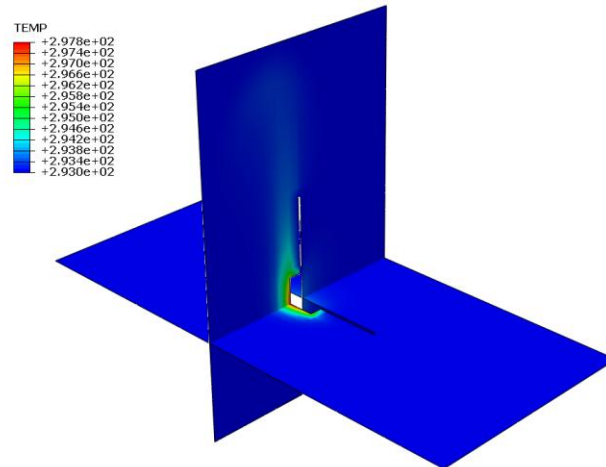

Figure W2-4 Temperature contour plot on two cut-planes: surrounding air
- f. The temperature contour on the two cut-planes appears as shown in Figure W2-4.